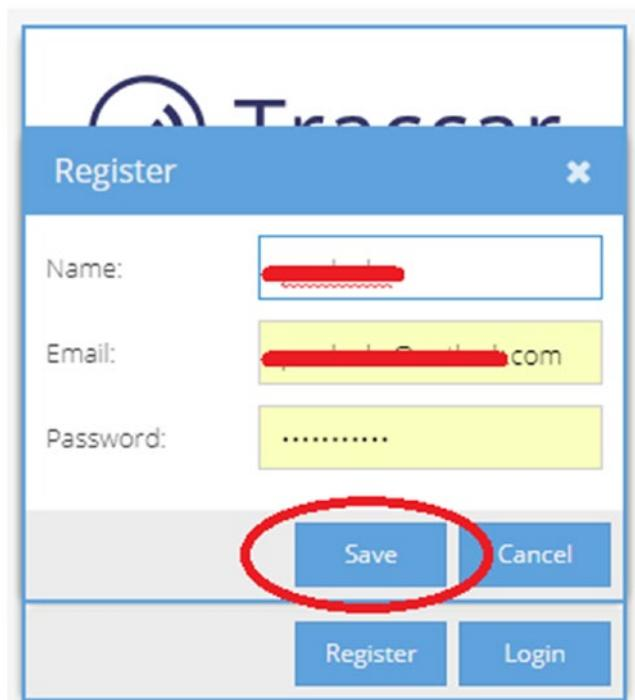

Figure 8-55. Registering with Traccar server, step 2
2. In the Register dialog box, type in a username, a valid e-mail address, and a password. Click the Save button to create the new account (Figure 8-55).